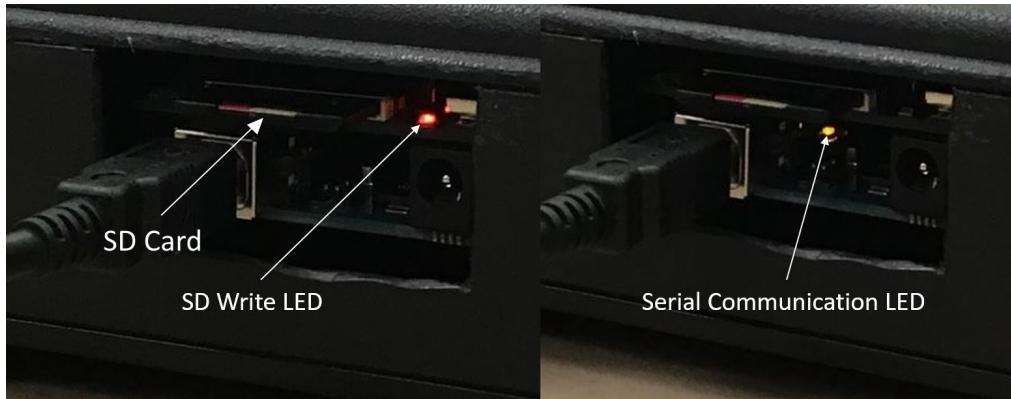

Figure 12: Control LEDs inside the TADA
- Upon opening the program, a yellow LED in the TADA should begin flashing (See Figure 12)
- A red LED in the TADA should begin blinking (See Figure 12)